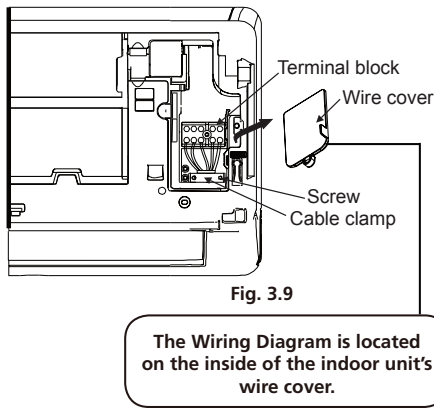

Figure 19
- To mount the cable to the interior unit: Remove the front panel and the cover plate of the terminal strip on the right hand side of the interior unit. Figure 19.